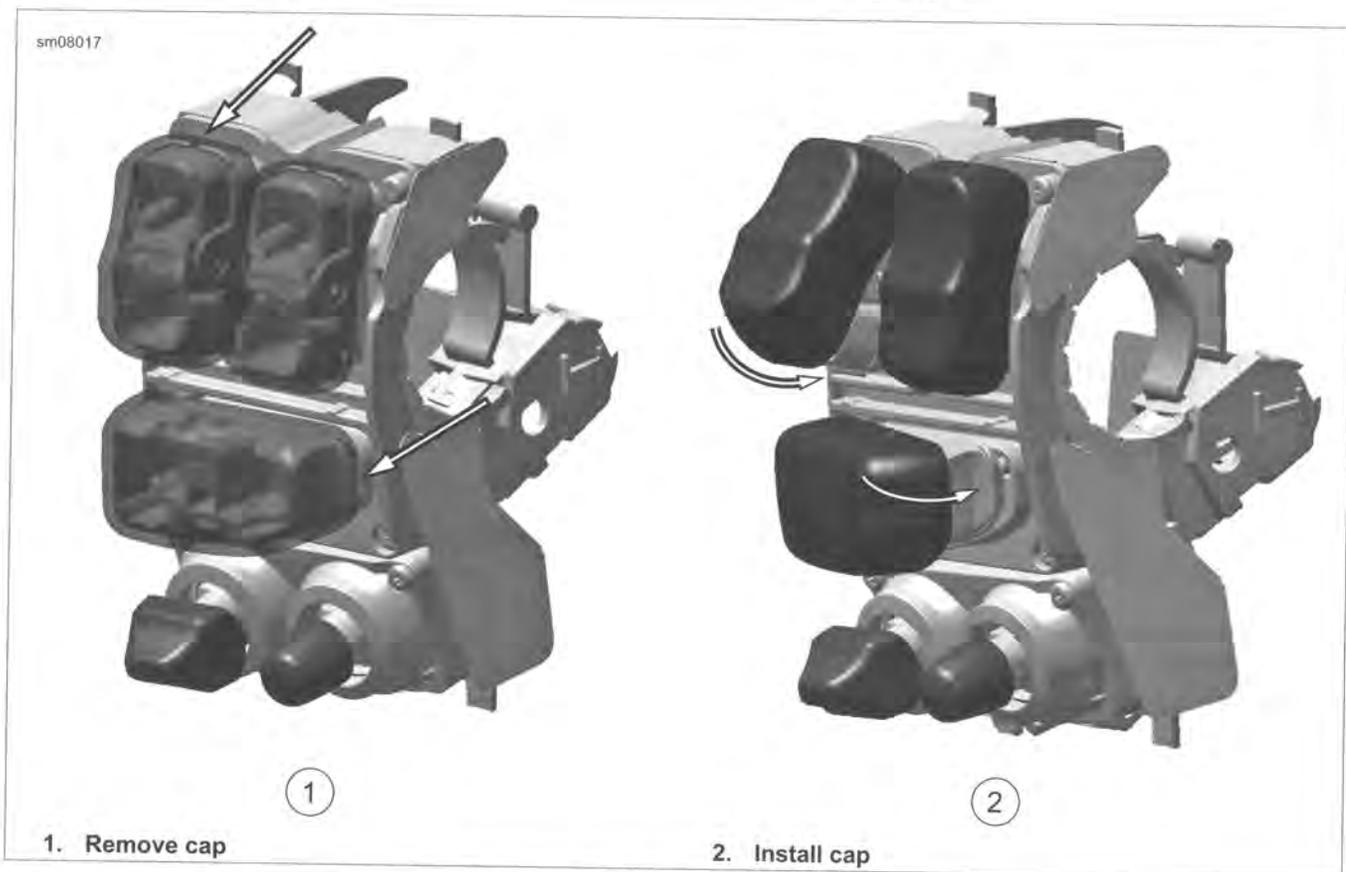

Figure 7-117. Replace Switch Caps
- a. **Rocker switch caps:** See Figure 7-117. Entering from the end, carefully pry between the switch cap and switch plunger. Remove switch cap.